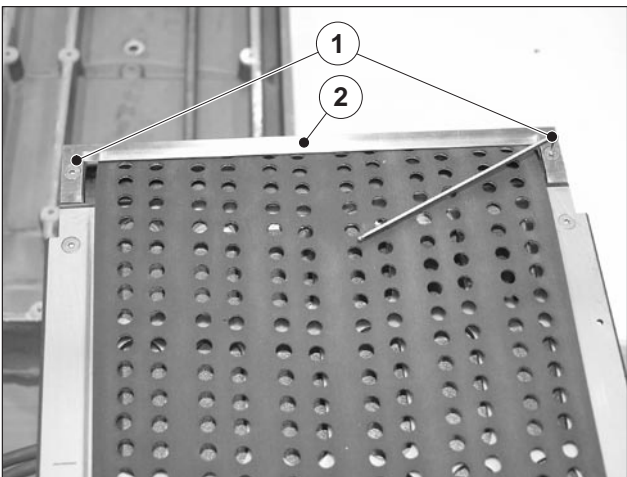

Fig. 96 Guide plate on the suction tape
7. Place the guide plate (Fig. 96/2) onto the suction tape module.
8. Screw guide plate and suction tape module (Fig. 96/1) together.